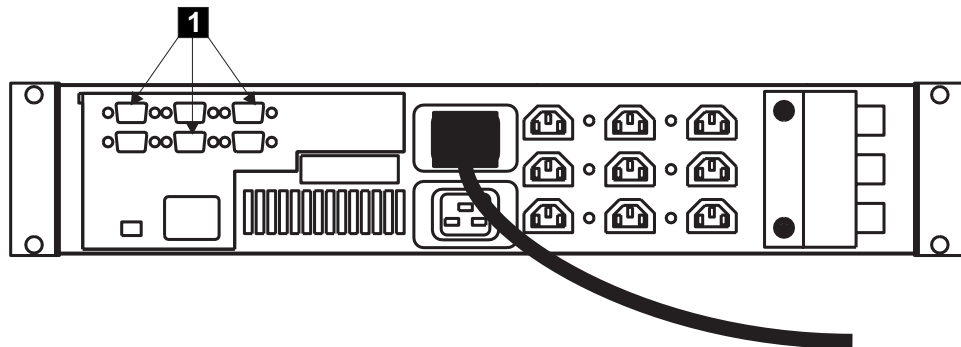

Figure 151. Disconnecting the 2145 UPS signal cables
2. At the back of the 2145 UPS, disconnect the signal cables. See **1** in Figure 151.